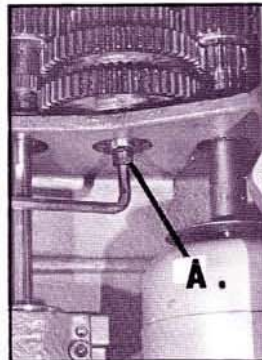
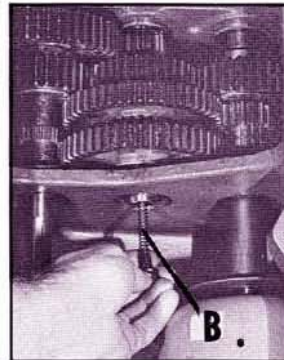

Fig. 9
Fig. 10
9. Remove screw and lockwasher (A) Fig. 9.
10. Remove spring (B) Fig. 10. The Spring will fall out when the screw and lockwasher (A) Fig. 9, is removed.
15. Replace spring (B) Fig. 10, and screw and lockwasher (A) Fig. 9.